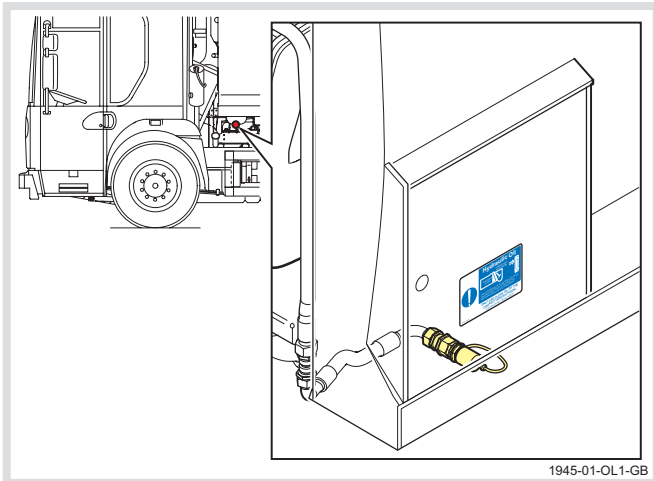

Fig. 4-3 Quick release coupling
2. Connect the filling equipment to the quick release coupling (see Fig. 4-3). Top up as necessary to the correct level using new hydraulic oil to the correct specification.